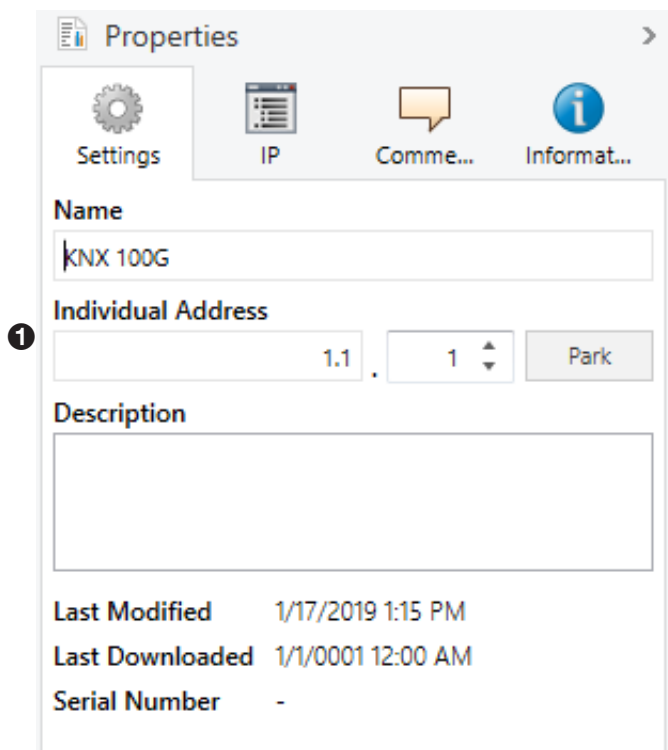

Figure 6. ETS Properties Settings
Within the 'Settings' overview, each individual KNX address and the device's name can be changed. 'Properties' will appear on the right side of the ETS window after clicking on the KNX 100G device entry within the project's topology view. Click on the list entry and type in the desired address into the Individual Address textfield to change an individual address (see ❶ in Figure 6). If the textfield frame switches to color red after entering the address, the address is already taken within your ETS project.